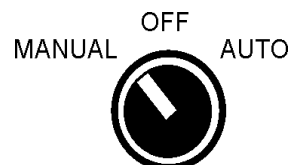

Figure 6. Manual-Off-On SW. (Man Position)
2. For manual operation of the pump, place the 3-position operation switch (Figure 6) on the control box in the manual position.